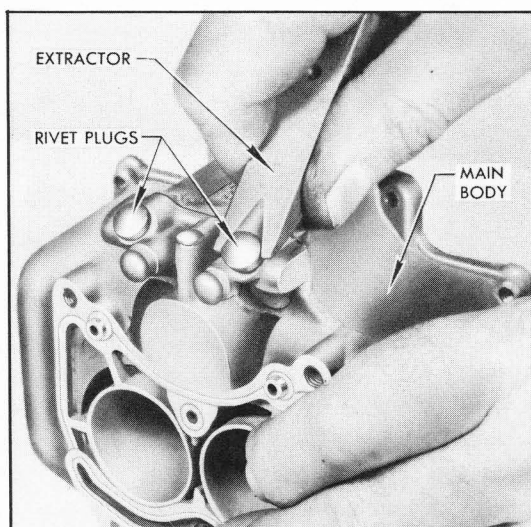

Figure 3-50—Removing Rivet Plug
18. Remove the two nozzle passage rivet plugs from main body, using Rivet Extractor T109-42. See figure 3-50.